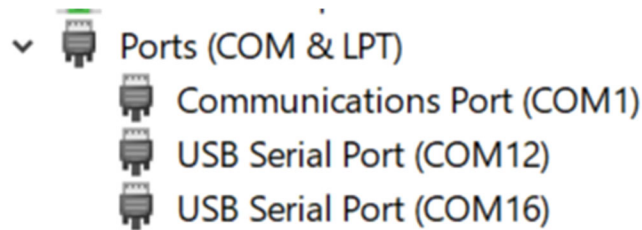

Fig 3.3.1.2-1 – COM Port Example
- Fig 3.3.1.2-1 – COM Port Example